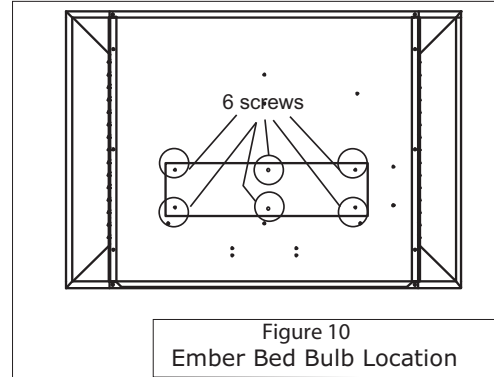

Figure 10
1. Remove the 6 screws on the back plate of the unit near the bottom (Figure 10). Open back plate from the top.